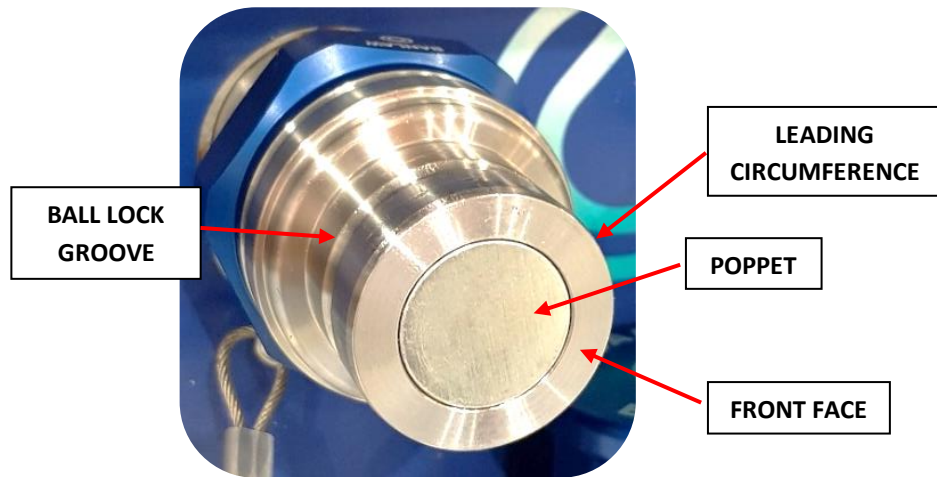
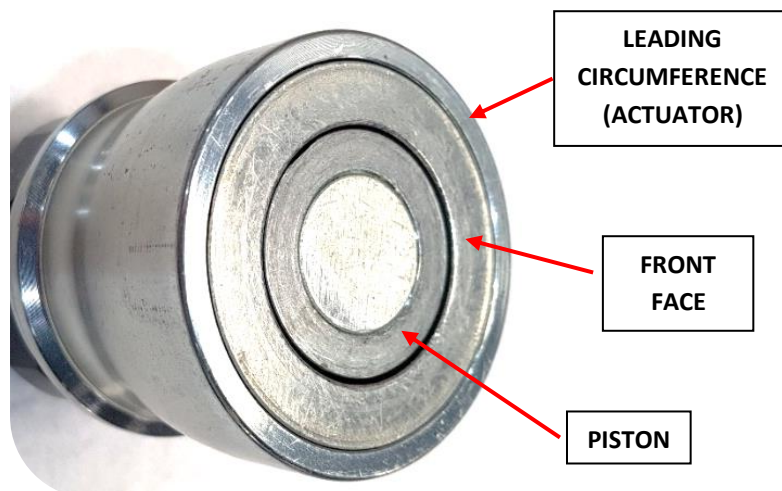

Figure 10 - Critical Areas of Damage on BPL Receivers
Figure 11 - Critical Areas of Damage on BPL Nozzles
- **Closely** inspect the front area of the BPL **Receiver** (Figure 10) and **Nozzle** (Figure 11) for excessive wear or damage;
- **Closely** inspect the front area of the BPL **Nozzle** (refer Figure 11), for signs of damage or excessive wear & tear. Excessive wear or damage may cause problems connecting and disconnecting the couplers but will also introduce the risk of unintentional coupler disconnection – i.e. BPL Nozzle "fly off" – during pressurised liquid transfer. Promptly replace any faulty BPL couplers prior to their next required use or place the coupler(s) "Out of Service" until replacement.